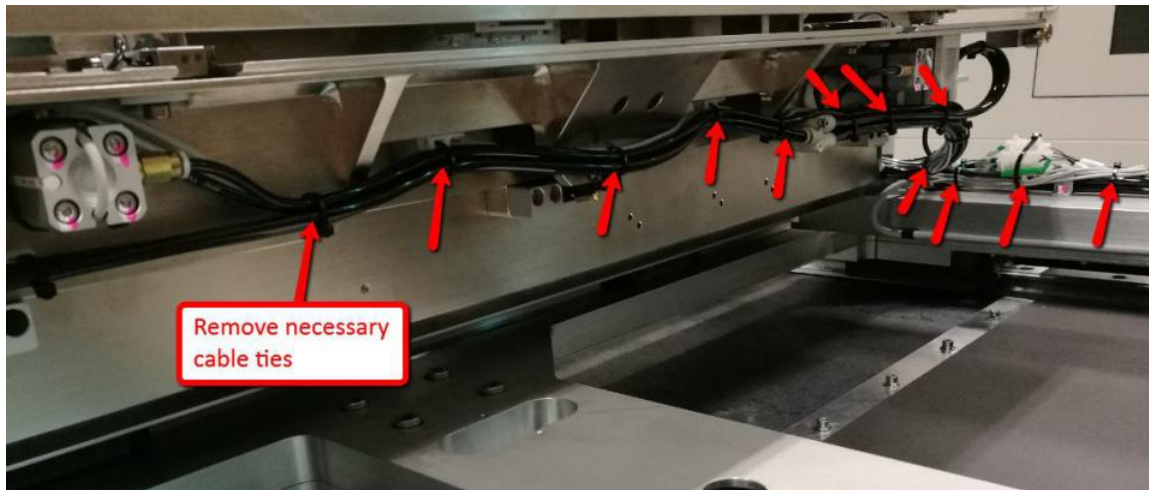

Figure 37 Cable ties Removal
4. Remove necessary cable ties as shown in Figure 37 below.